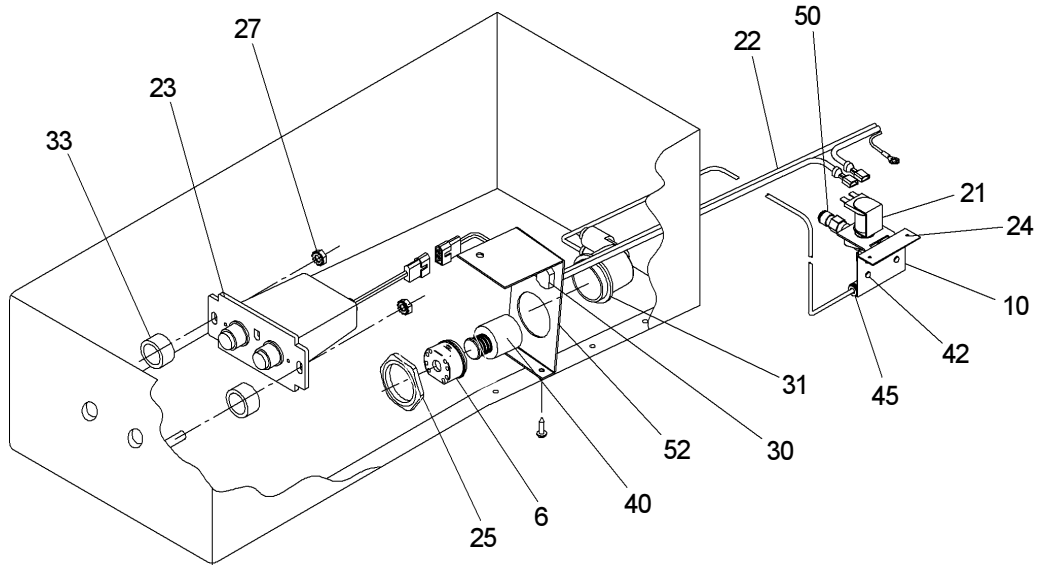

FIG. 7
11. Connect power cord of sensor to solenoid valve by running it through the back panel and connecting it as shown in Fig. 7. Connectors may be connected to either terminal on solenoid valve. Attach ground wire to solenoid valve bracket with green ground screw.